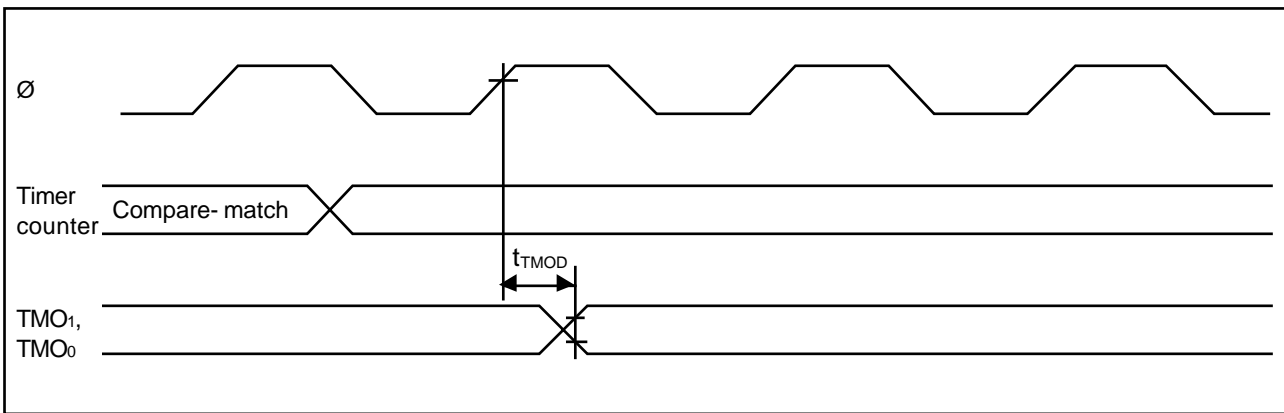

Figure 15-13. 8-Bit Timer Output Timing
| TMR | Timer output delay time | t _{MOD} | – | 150 | – | 100 | – | 100 | – | 100 | ns | Fig. 15-13 |
- 15.3.4 8-Bit Timer Timing Figures 15-13 to 15-15